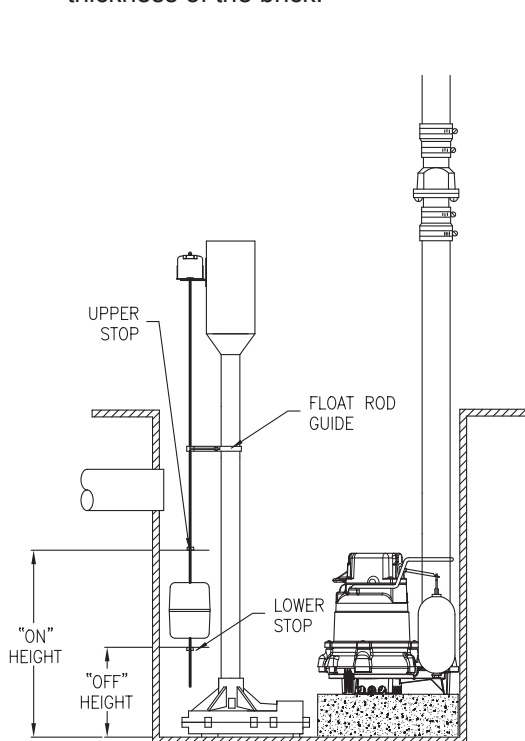

Figure 2.1
- 2.1) With the pump in the pit, measure the desired float stop on/off positions as shown in Fig. 2.1. These two dimensions will determine the on/off levels of the pump. The spacing between the upper and lower stops will determine the amount of water removed from the pit.